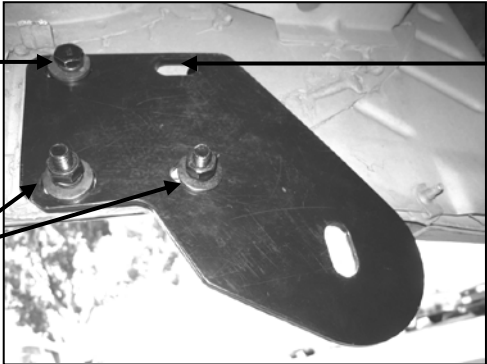

Figure 2
5. Loosely attach the upper side of the Mounting Brackets to already installed Clip Nuts by using (2) 10-1.50mm x 40mm Hex Head Bolts, (2) 10mm Flat Washers, and 10mm Lock Washers on each Mounting Bracket (*Figure 2 & 3*)..